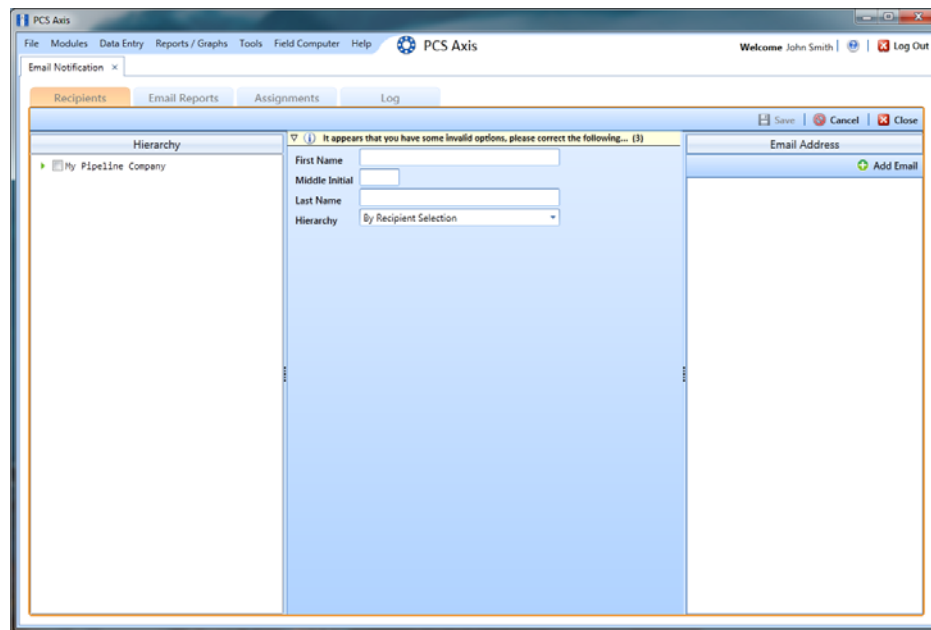

Figure 11-4. Recipients / Add External User
- 2 Click  **Add External User**. Type the user's **First Name**, **Middle Initial** (optional), and **Last Name** in the respective fields located in the center panel of the window (Figure 11-4).